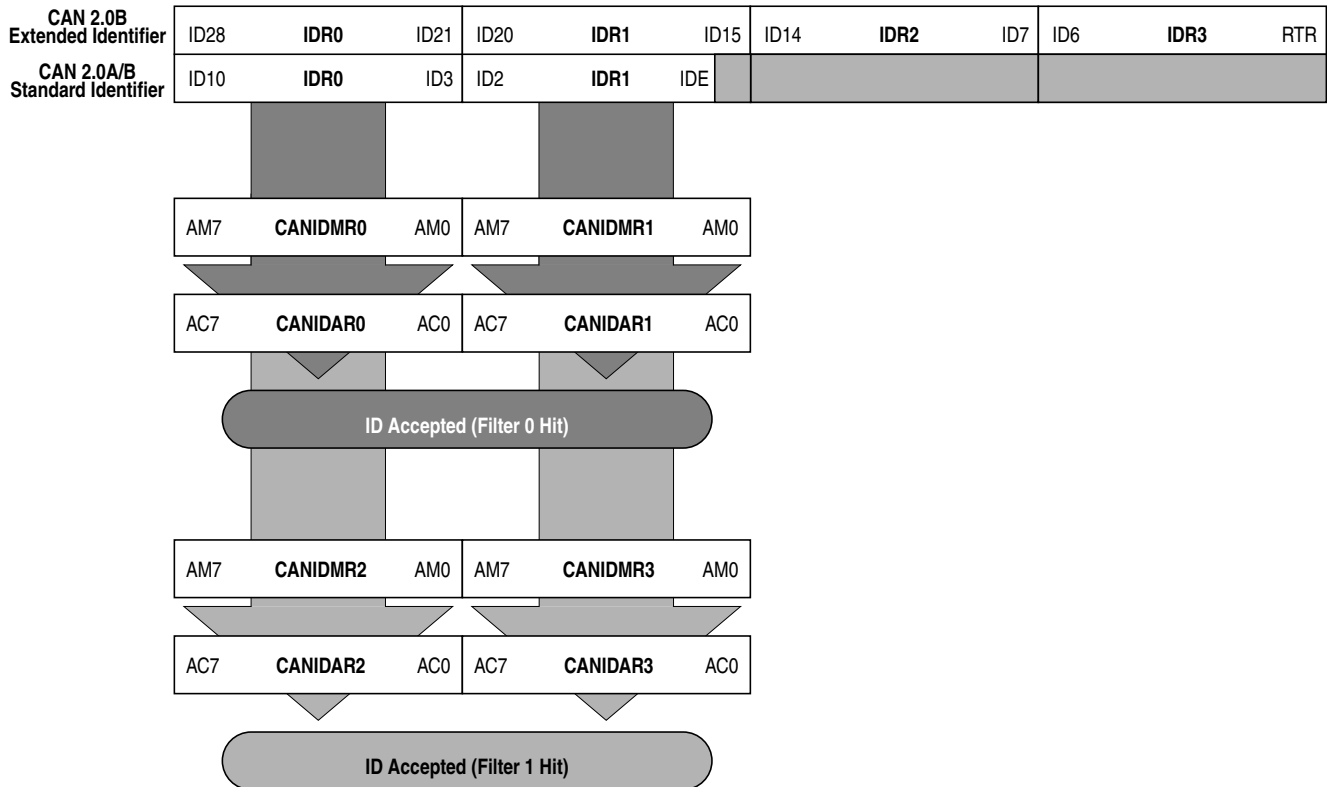

Figure 16-41. 16-bit Maskable Identifier Acceptance Filters
- Figure 16-41 shows how the first 32-bit filter bank (CANIDAR0–CANIDAR3, CANIDMR0–CANIDMR3) produces filter 0 and 1 hits. Similarly, the second filter bank (CANIDAR4–CANIDAR7, CANIDMR4–CANIDMR7) produces filter 2 and 3 hits.